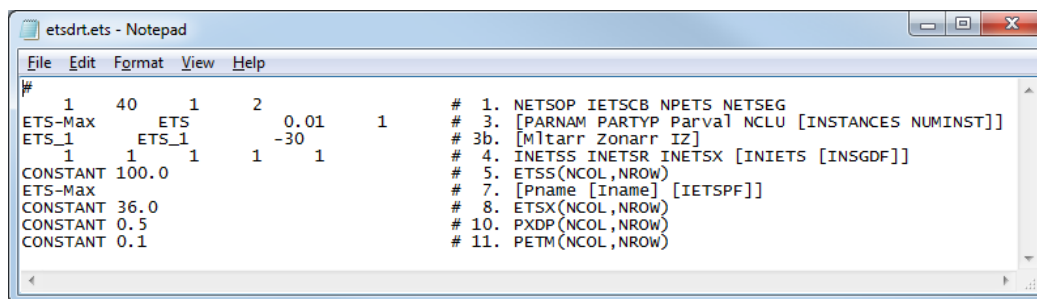

Figure 13 ETS package file
3. Using a text editor, open the “etsdrt.ets” file (Figure 13).